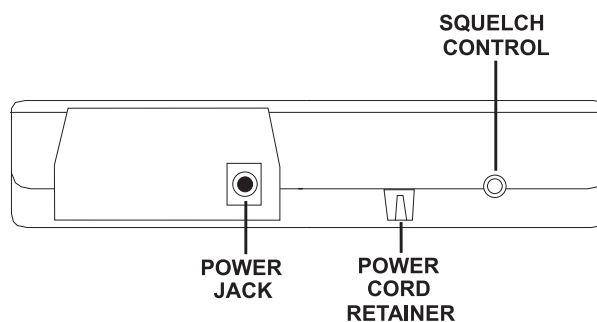

Figure 2
1. **Insert battery.** Slide open the battery compartment cover by pressing lightly with your thumb on the horizontal grooves (at the back end of the transmitter) while gently pulling back (see Figure 2).